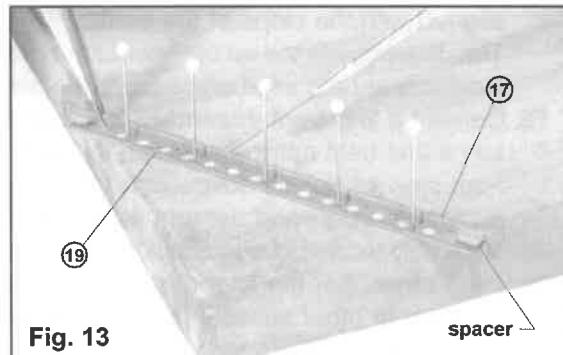

Fig. 13
**10. Cement a tower strut side, inside part (16) or (17) to a tower strut lattice part (19).** See the exception note above.
On a block of soft wood or a piece of cardboard, place part (19) with the rib side up, across a corner of the block so both ends overhang the block slightly. See fig. 13. Pin the part to the block with several straight pins so it cannot move. Place part (17) on edge on part (19), against the inside of the raised rib, with the spacers to the inside and flush with the ends of part (19). Apply cement along the rib, making sure part (17) is vertical and perpendicular to part (19). Use the plates at each end for reference.
**11. Cement a tower strut side, outside part (18) to the tower strut assembly.**